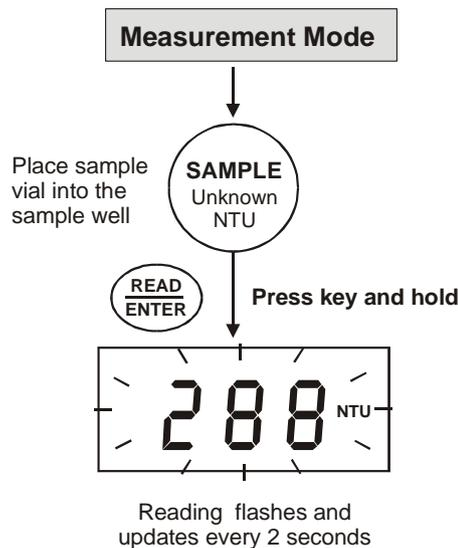

Figure 13: Continuous Measurement
3. Press **READ/ENTER** key and hold. See Figure 13